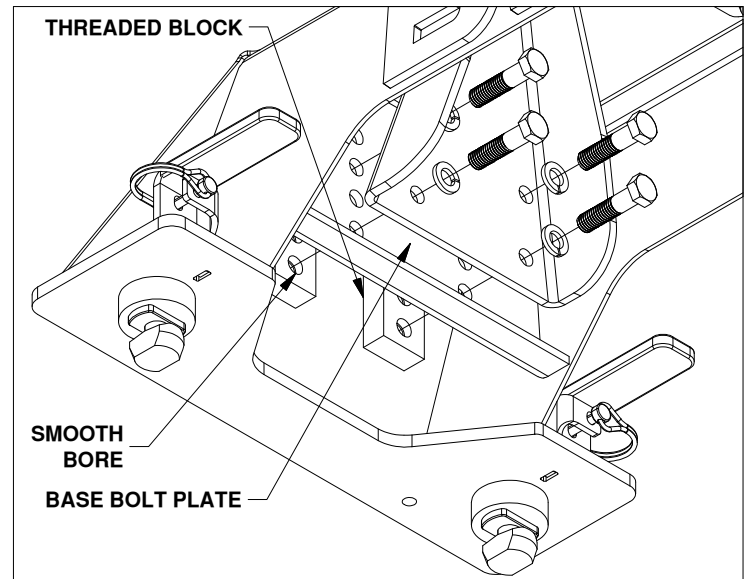

FIGURE A3: Passenger pivot arm mounting location.
- Secure arms.** Locate both pivot arms, the four threaded blocks, eight 1/2" cap screws, and eight 1/2" lock washers. Place the lock washers over the cap screws. Align the flat side of the pivot arm flat against the bolt plate and install four 1/2" cap screws through the holes on the arm, holding the arm in place, as shown in Figure A3. Locate the threaded blocks. Note that the sides of the block have threaded holes on one side and smooth bored holes on the other side. When installing the threaded blocks it is critical that the side with the smooth holes is flat against the bolt plate when installed. It is also critical that each of the five holes in the threaded block match up with the five vertical holes in the bolt plate. Pass the threaded block under the base, align the block with each set of screws, and start each screw, as shown in Figure A3. After all the screws are started through the arms, torque each bolt to 110 ft-lbs.